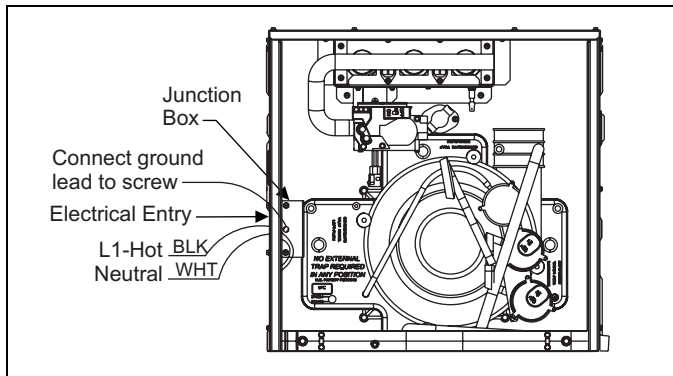

FIGURE 17: Electrical Wiring
2. Remove the wiring box cover screws. Route all power wiring through a conduit connector or other proper bushing that has been installed into the unit opening and the junction box. In the junction box there is a black wire, a white wire and a green ground screw. Connect the power supply as shown on the unit's wiring label located on the inside of the blower compartment door, or the wiring schematic in this section. Connect the black wire to L1 (hot) from the power supply. Connect the white wire to neutral. Connect the ground wire (installer-supplied) to the green (equipment ground) screw. An alternate wiring method is to use a field-provided 2" (5.1 cm) x 4" (10.2 cm) box and cover on the outside of the furnace. Route the furnace leads into the box using a protective bushing where the wires pass through the furnace panel. After making the wiring connections replace the wiring box cover and screws. Refer to Figure 17.
3. The furnace's control system requires correct polarity of the power supply and a proper ground connection. Refer to Figure 17.